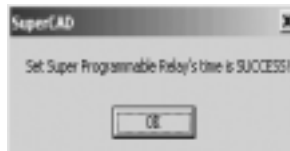

Fig. 4.22 Setup Time Succeed
d. Display system time in this dialog box, click “”, cue shown as Fig. 4.22 appears, to renew time of SR succeed.